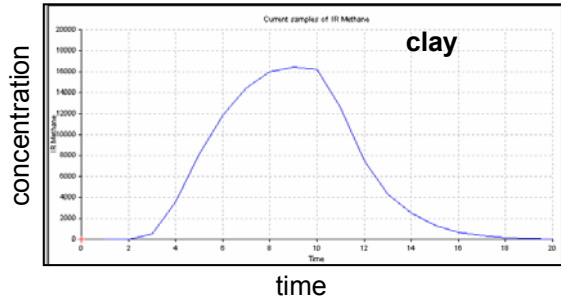

Fig. 4 -Sequence of measured values from a clay soil sample with poor permeability . The sharp decay of the curve indicates low porosity of the soil.
**ECOPROBE 5** provides a separate measurement for methane and displays sequences of measured values on the screen, thereby providing important information about the potential of soils of differing permeabilities to yield sufficient soil vapor. To illustrate this point, the graphs below were obtained using the same amount of clay and sand soil samples, into which identical quantities of contaminant had been mixed (Figs. 4 and 5).